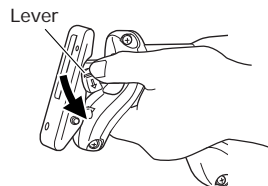

Fig. 2
- (2) Push the lever in the direction of the arrow mark shown in **Fig. 2** marked on the lever.
- (2) After you have pushed the lever in the direction of the arrow mark shown in Fig. 2, turn the blade so it faces downward. The blade should fall out by itself. If the blade doesn't fall out, pull it out by hand.